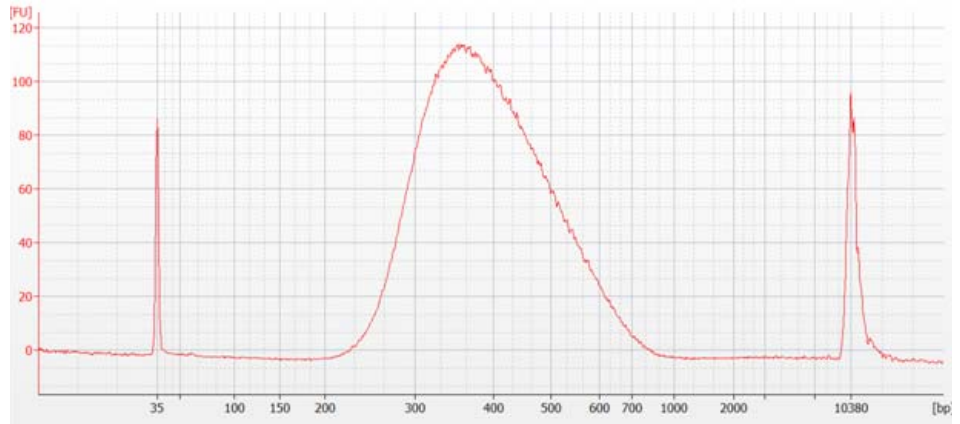

Figure 11 Analysis of indexed DNA using the High Sensitivity DNA Assay.
- 6 Verify that the electropherogram shows the peak of DNA fragment size positioned between 325 and 450 bp. A sample electropherogram is shown in Figure 11.